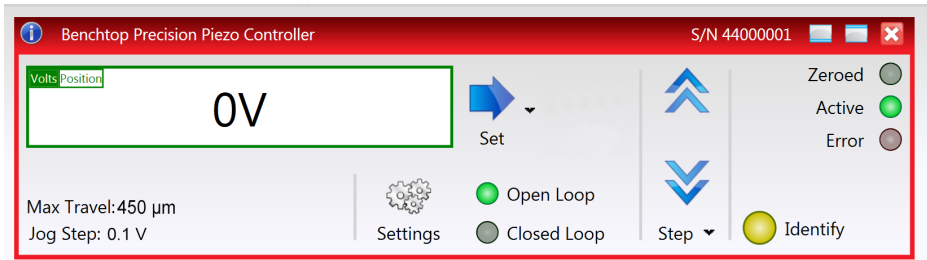

Fig. 4.1 Piezo Controller Software GUI .
- 3) Power up the hardware, and wait until the PPC001 has finished booting up, then run the software - Start/All Programs/Thorlabs/Kinesis/Kinesis. The software registers automatically the units connected on the USB bus and displays the associated GUI panels as shown in Fig. 4.1.
- 4) Notice how the total travel for the associated piezo is displayed in the 'Travel' window - see Fig. 4.1.